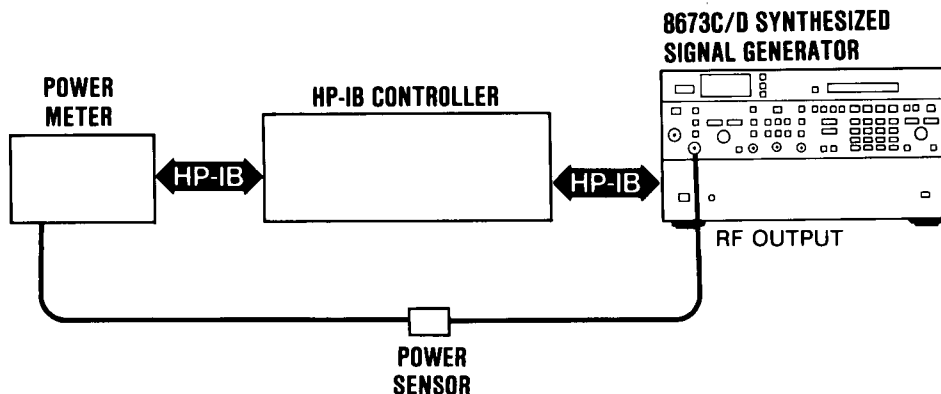

Figure 8-40. Final Output Power Check Test Setup
22. Connect equipment as shown in Figure 8-40. With the HP HP 8673C/D Adjustment Cassette still installed (See Step 12) run the following power plots, as appropriate: